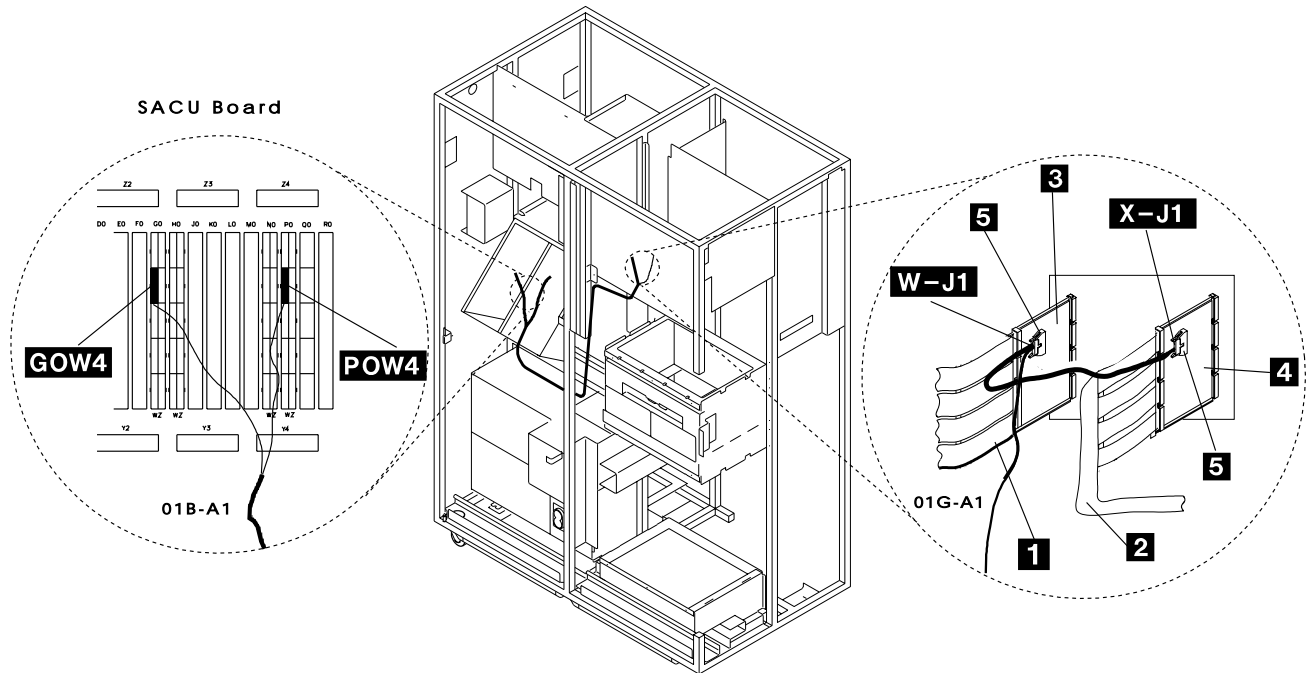
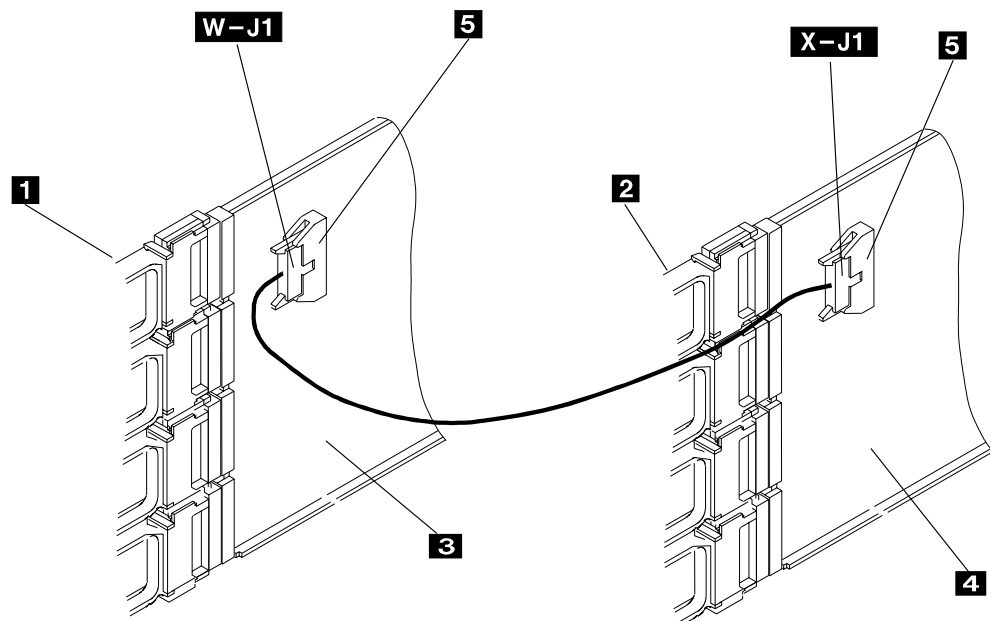

Figure 4-36. Cable 2 (PN 43G3181) Routing on a TSST Board
Figure 4-37. Cable 1 (PN 43G3180) Routing on a TSSB board
- Step 4. \_\_\_\_ Take a DICO card (17G6080), , remove the four interposers plugged on top of the card while holding the card in your hand, plug the DICO cable 1 (or 2) lead **X-J1** to connector **5** of the DICO card PN 17G6080. (see Figure 4-36 or Figure 4-37).
- Step 6. \_\_\_\_ Position the DICO card **4** in location 01G-A1 X02, and the DICO card **3** in location 01G-A1 W02 (see Figure 4-36 on page 4-37 when plugging the card into a TSST board or see Figure 4-37 on page 4-37 when plugging the card into a TSSB board).
- Step 8. \_\_\_\_ If you are installing a cable PN 43G3181 (from the TSST board) route this cable to the SACU control board. (refer to Figure 4-36 on page 4-37).